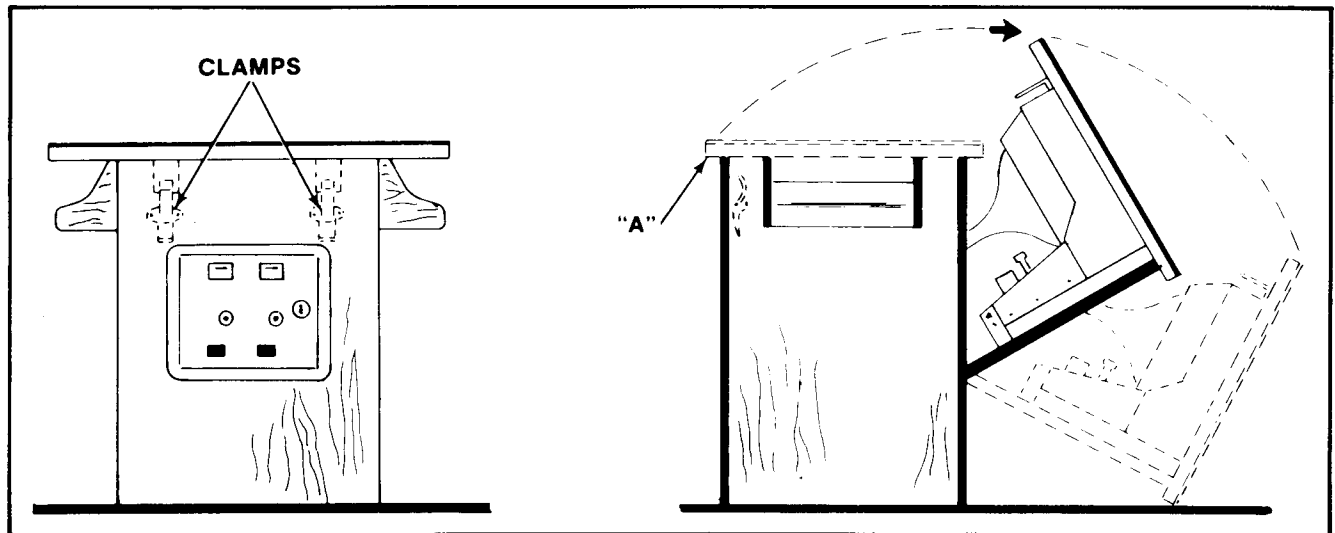

Figure 4-8 Opening the Cocktail Game
- Open the coin box door and release the two latches indicated in Figure 4-8.
- Grasp the table top at "A" and open it as indicated in Figure 4-8.
Open the coin box door and release the two latches indicated in Figure 4-8.